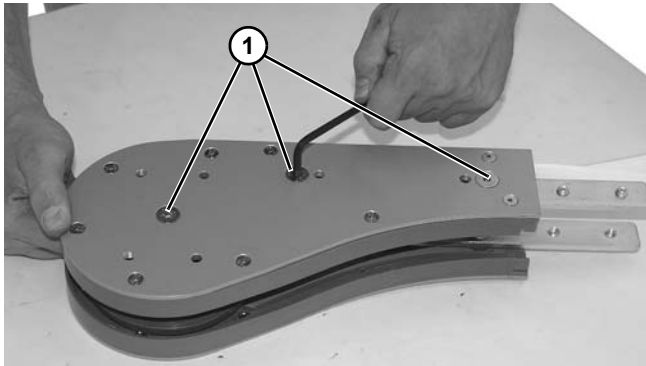

Figure 121
2. Remove three flat head screws (Figure 121, item 1).